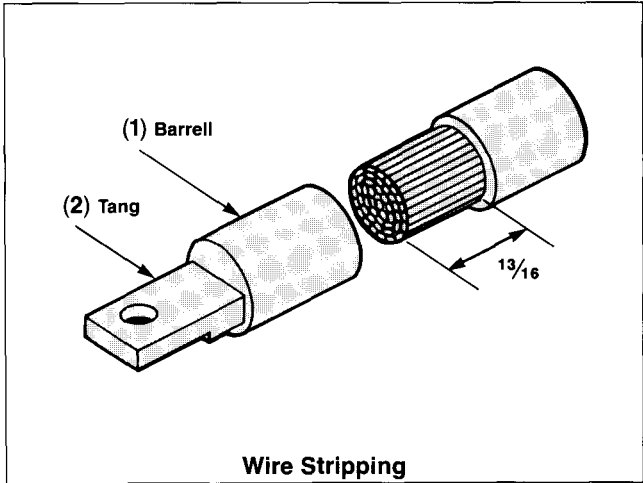

Figure 1
- D. Preform cables to final configuration and strip insulation back $\frac{13}{16}$ in. on each conductor. Use an appropriate insulation stripping tool to avoid damaging the conductor. (See Figure 1.)
- F. Remove cap from compression connector and insert cable fully into barrel (1) (Figure 1) of connector.
- G. Insure that connector tang(s) (2) (Figure 1) are in their proper orientation prior to crimping. This helps avoid twisting of cables during installation.